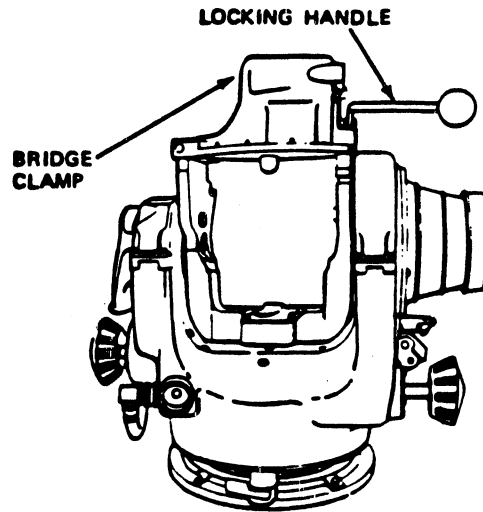

Fig 4-16. Locking handle/bridge clamp.
Step 4. Push the locking handle forward, then up and open the bridge clamp (fig 4-16).